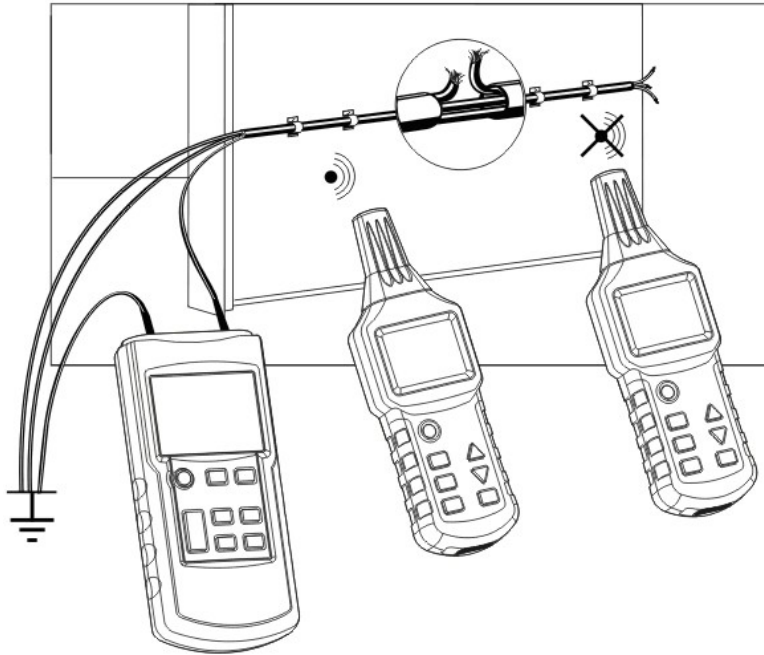

Fig. 11
- All the other wires must be grounded as shown in Fig. 11.
- Connect the transmitter to the wire under test and to ground as shown in Fig. 11.